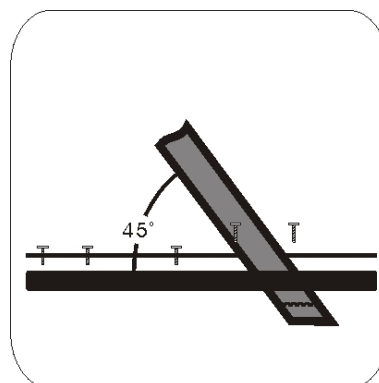

Figure 4.32
2. Keep the pelvic belt in 45 degrees for comfortable usage. (See Figure 4.32.)